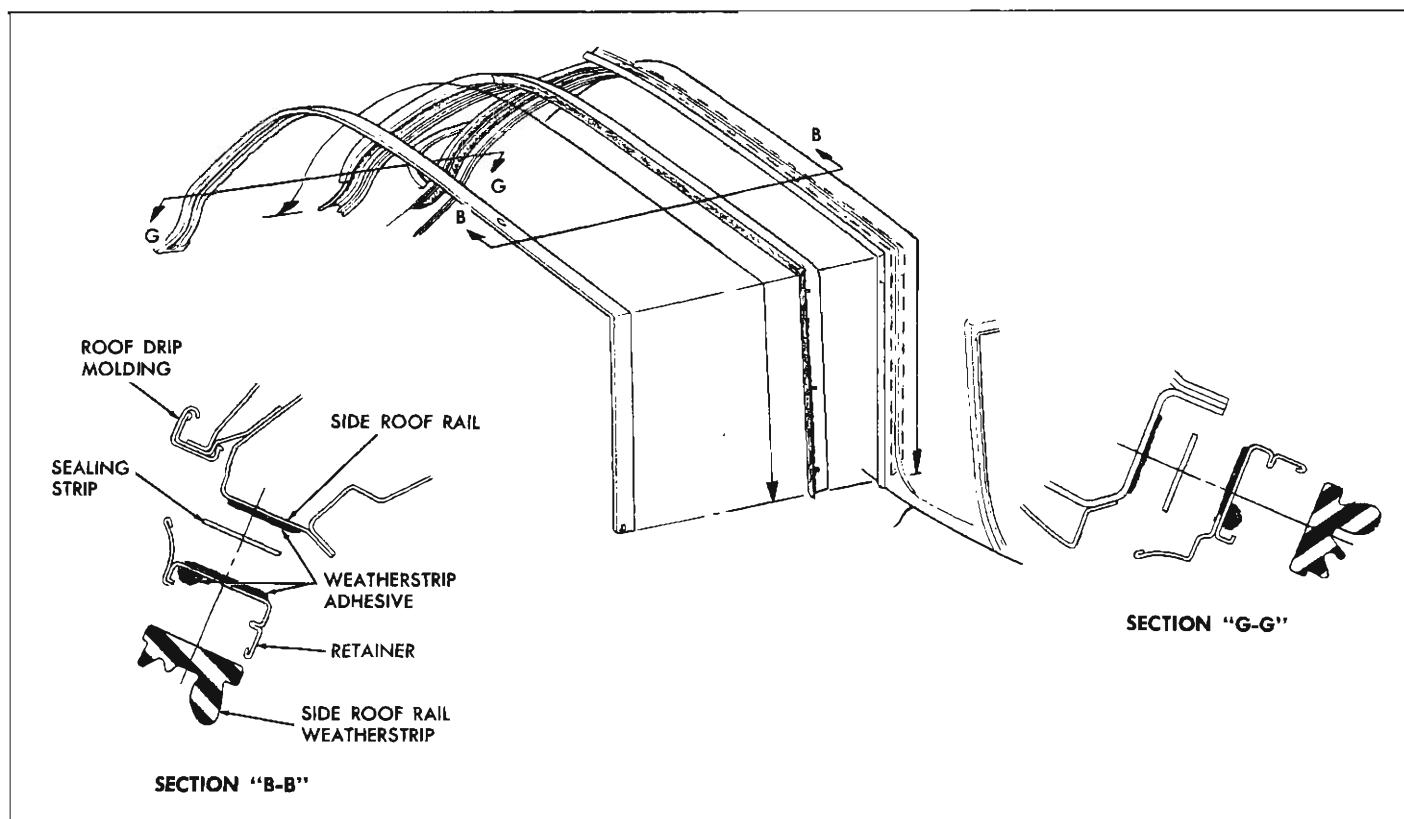

Fig. 17—"47" and "39" Style Roof Rail Weatherstrip Assembly
2. Apply a continuous bead (approximately 3/16" diameter) of weatherstrip adhesive along entire outboard surface of side roof rail weatherstrip retainer (see Section "B-B" in Figure 17).